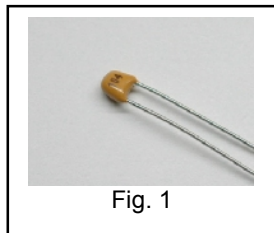

Fig. 1
| 6 | C2, 3, 8, 20, 40, 42 | 0.1uF monolithic (marked 104) Fig. 1 Note:C40 changed to 0.001uF disc (102) starting with ser.#101 |